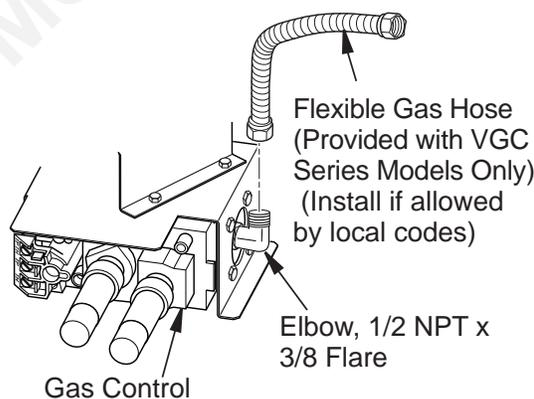

Figure 11 - Attaching Flexible Gas Hose to Appliance Gas Regulator
1. Apply pipe joint sealant lightly to male threads of the 1/2 NPT side of gas fitting elbow (provided) and connect to inlet side of gas control. Remove gas fitting from flexible gas hose (provided) before connecting to elbow (see Figure 11).
4. Disconnect gas line from appliance base as shown in **Figure 11, Page 13**.